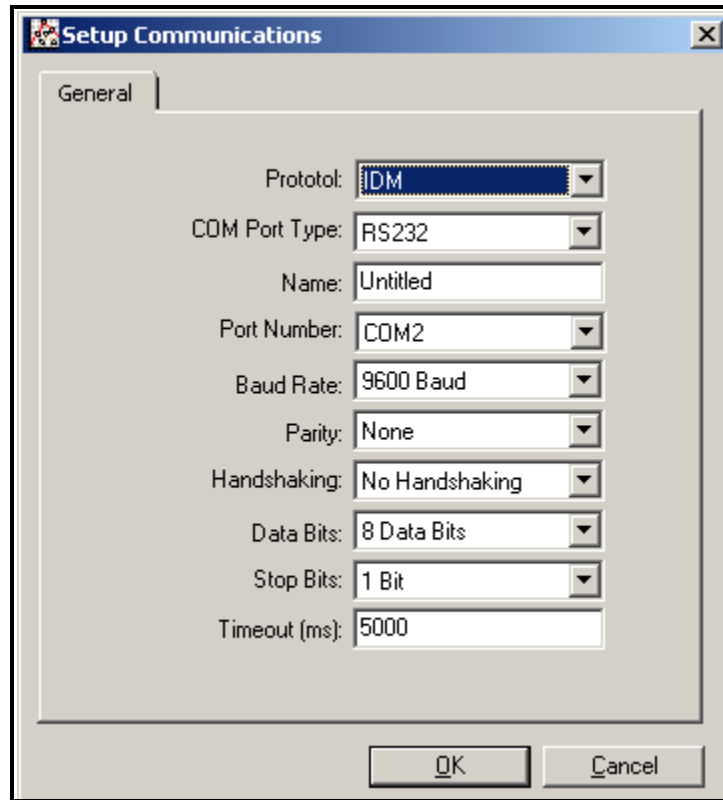

Figure 19: *Setup Communications* Screen
- Click on the "Communications Port" option to select it. The *Setup Communications* screen appears similar to Figure 19 below.